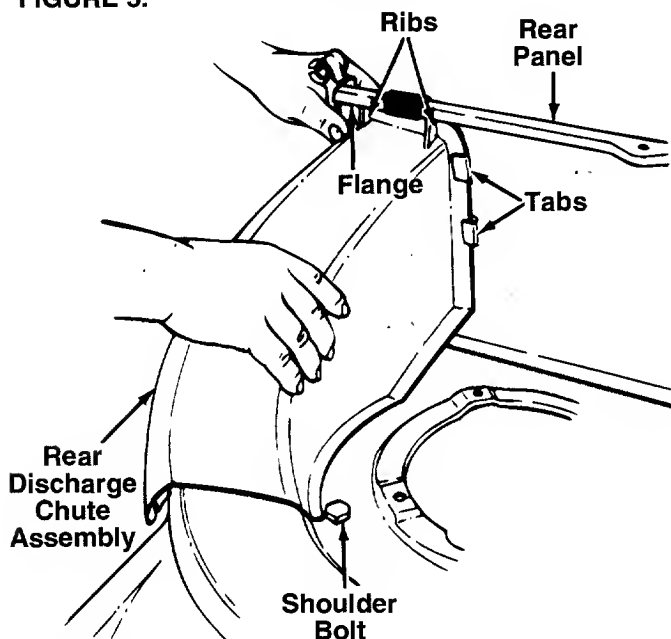

FIGURE 6.
- Slide the ribs on the discharge chute assembly under the flange on rear panel as you insert the side of the discharge chute under the two tabs. See figure 6.